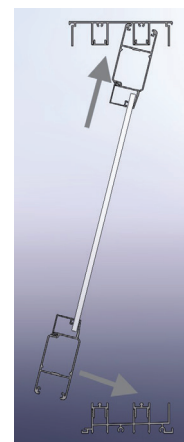

Figure 30
1. **Position** panel so that the top of panel slips over track frame header. Swing bottom of panel in until bottom of panel is aligned over sill and set panel on roller spline. (See Figure 30)